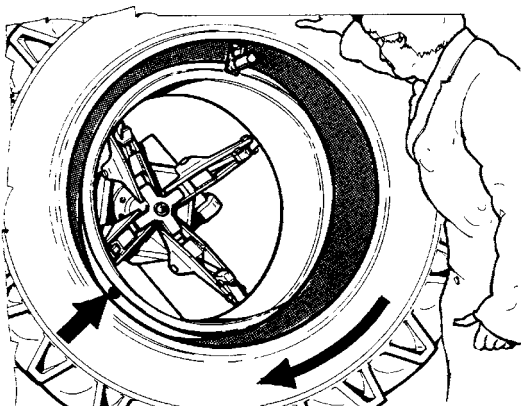

Fig.49
3. Place the hook tool as shown in fig.49.